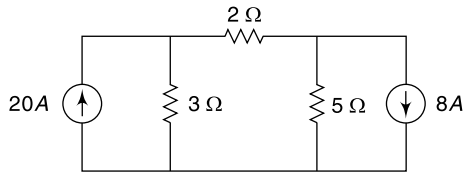

Fig. 4.69 Circuit of Ex. 4.46
4.46 Use source transformation technique to find the current through the 2Ω resistor in Fig. 4.69.